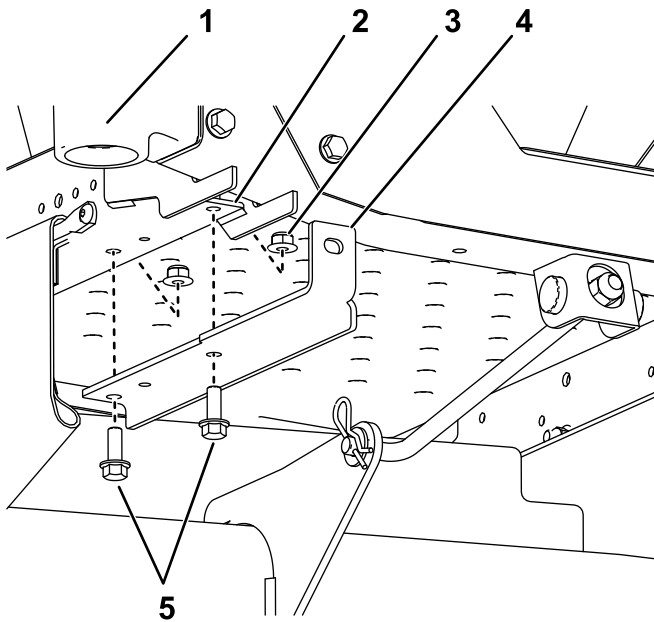

Figure 4
1. Install the weight-mounting brackets to the under side of the frame using 2 bolts (3/8 x 1 inch), and 2 locknuts (3/8 inch) as shown in Figure 4.